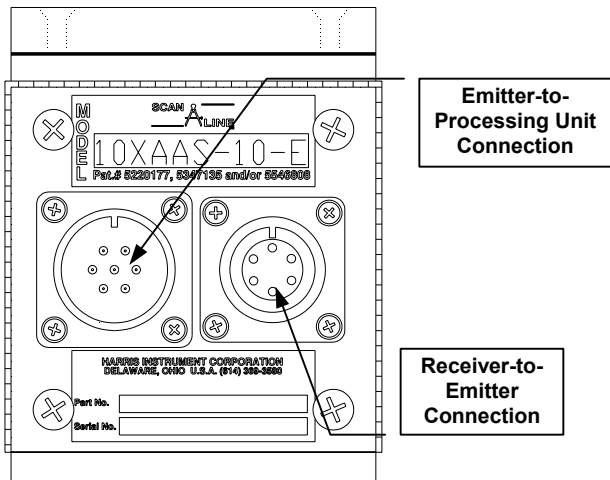

Figure C.4-16: Emitter Circular Connector Bulkheads
- 2) Connect the male connector end of receiver extension cable to the emitter via the 6-pin MS-style circular bulkhead and tighten securely {Figure C.4-16}. Repeat steps 1 and 2 above on the second sensor for a dual-sensor system.